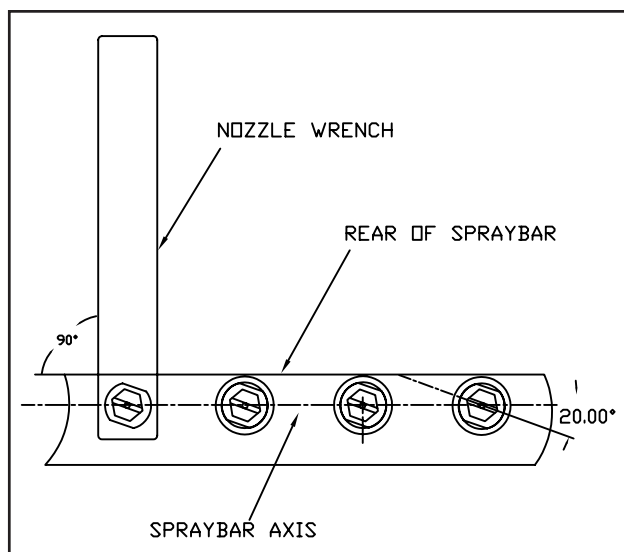

FIGURE 3-7. SETTING NOZZLE OPENINGS
1. Set the long axis of the nozzle openings to 20 degrees as shown in Figure 3-7 so that the spray fans do not interfere with each other. This setting will give the best coverage without interference with the spray pattern.
The recommended nozzle angle is 20° and is set to that specification at the factory. After changing nozzles, or when adjustments need to be made, use the Nozzle Alignment Wrench and the Valve Alignment Wrench for accurate positioning. Tools are provided with each unit. (Figure 3-7)